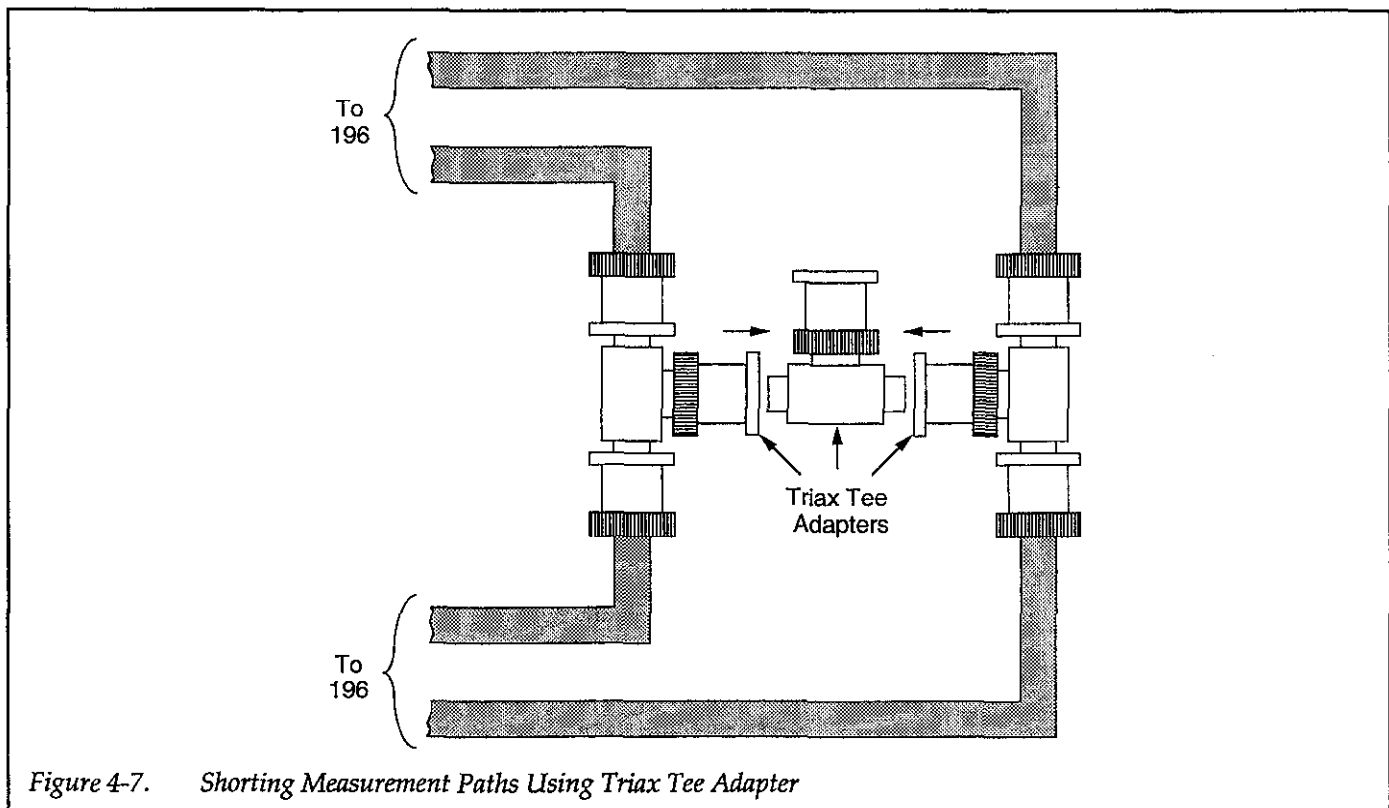

Figure 4-7. Shorting Measurement Paths Using Triax Tee Adapter
4. Temporarily connect the two triax tee connectors together using a third triax tee adapter, as shown in Figure 4-7.